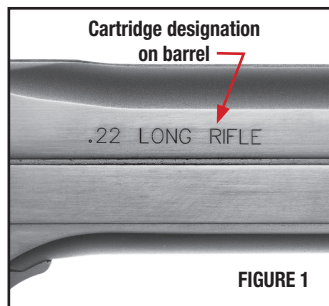

FIGURE 1
- Locate the cartridge designation marked on the firearm. This information indicates the correct ammunition that must be used in this firearm (FIGURE 1).